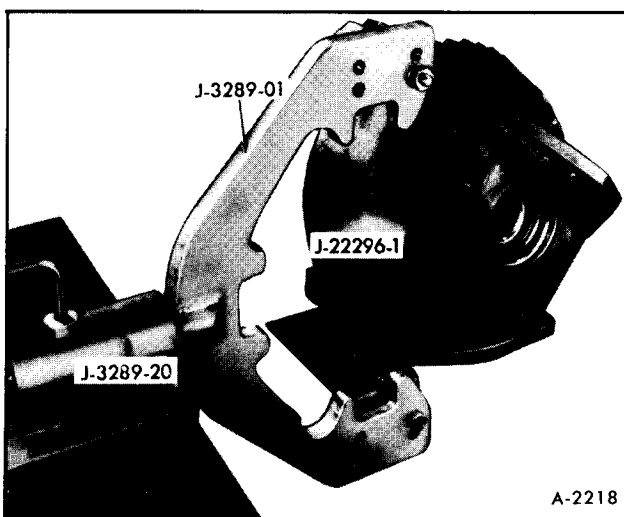

Figure 17—Final Drive Holding Fixture
1. Install adapter J-22296-1 on Differential Holding Fixture J-3289. Mount final drive in holding fixture as shown in Figure 17.